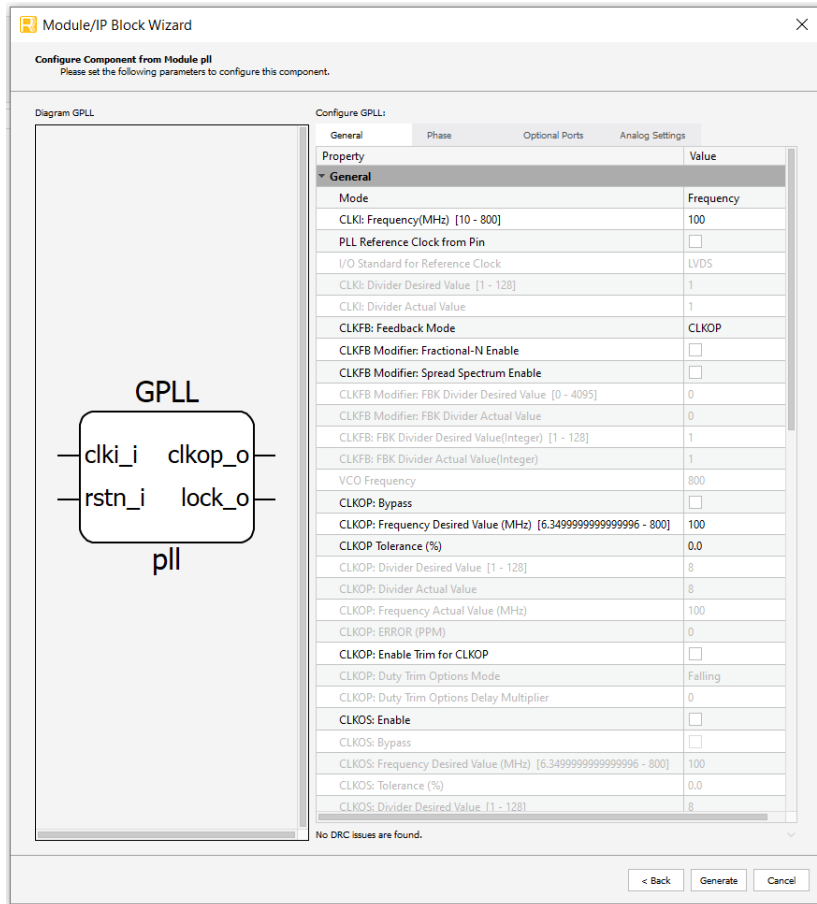

Figure 3.2. Configure User Interface of PLL Module
3. In the module's dialog box of the **Module/IP Block Wizard** window, customize the selected PLL Module using drop-down menus and check boxes. As a sample configuration, see Figure 3.2. For configuration options, see the Attributes section.